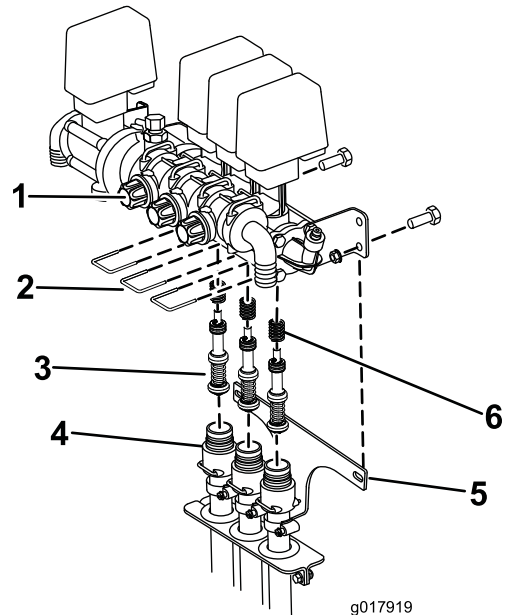

Figure 75
B. Remove the 3 forks securing the valve seats to the valve assembly (Figure 75).
- C. Remove the 2 screws and nuts securing the hose loom bracket to the sprayer frame (Figure 75). Lower the hoses away from the valve assembly.
assembly. Make sure to account for the springs in the valve (Figure 75).